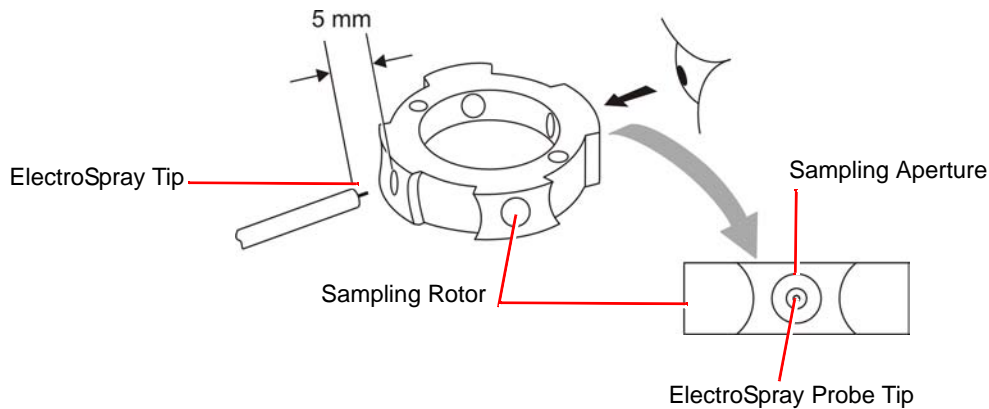

Figure 8-23 Aligning the Capillary
7. Align the sampling rotor sample apertures with the probe tip and look through the them to check whether the capillary is central and straight in the probe tip (Figure 8-23). A magnifying glass may be used, if necessary.